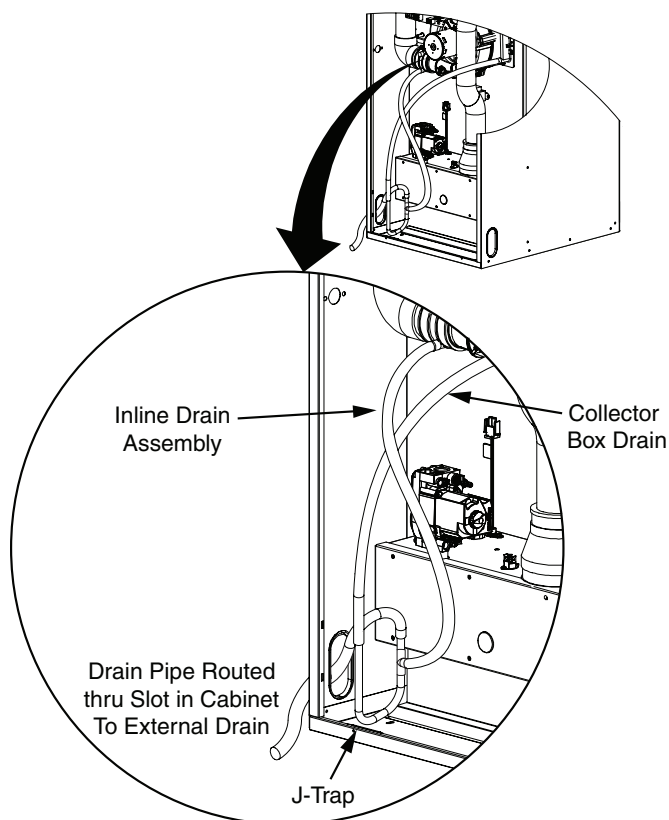

Figure 18. Condensate Drainage
- The condensate drain may exit through the left or right slots in the bottom of the furnace. See Figure 18 (page 19). Make sure the flexible drain hose is not kinked.
1. Remove the collector box soft tube (Figure 18) and verify the exit from the collector box is clear of any debris or obstructions.